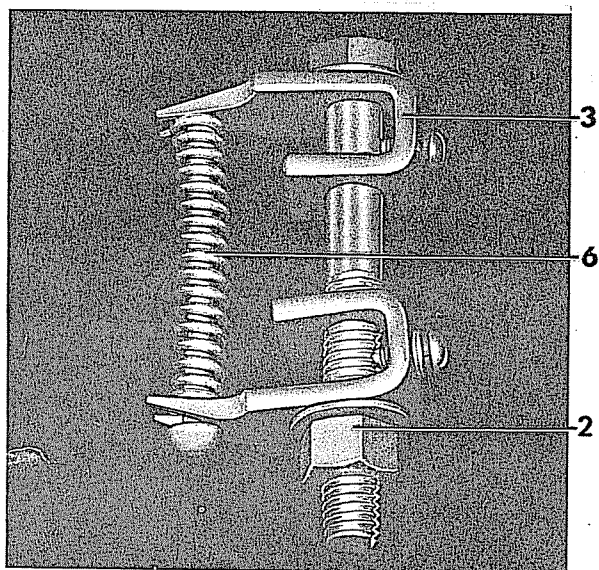

Figure 24A (8034466)
2. Open spring compressor (3) and assemble spring guide, spacer (1200 amp. only - not shown), spring, and spring compressor (Figure 24A).